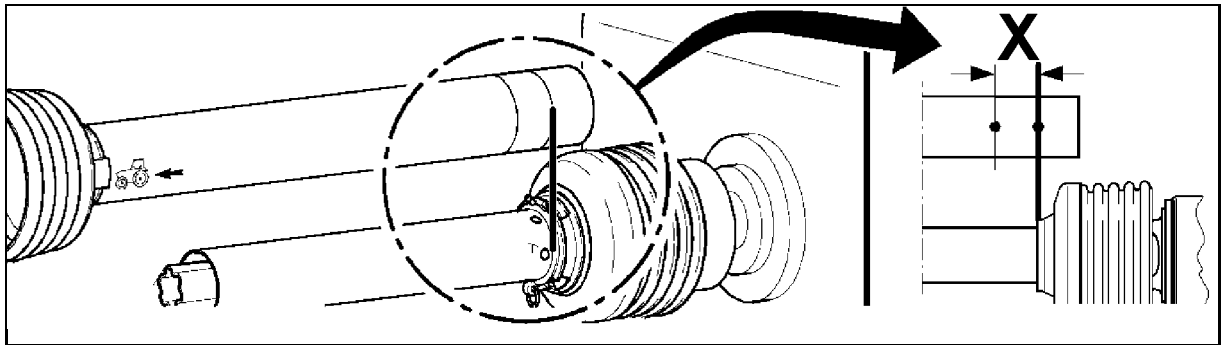

Fig. 28
6. Shorten the propeller shaft, such that the **minimum free space (X) is 40 mm** in its shortest operating position (Fig. 28).